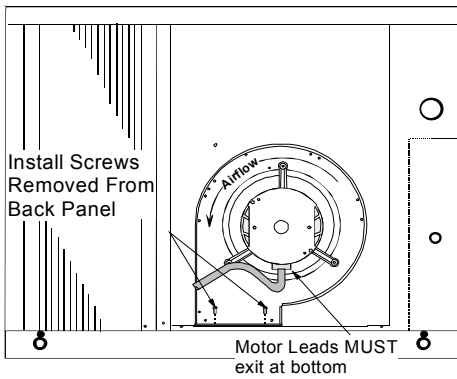

Figure 7 - Vertical Blower Assembly
The first step in the conversion is to rotate the blower assembly for downshot airflow. After rotating the blower assembly, the blower motor must be oriented as shown in Figure 7 with the motor wires at the bottom. This keeps condensate from puddling inside the blower motor and causing motor failure. If the motor is not oriented correctly, loosen the motor belly band and rotate the motor to the correct position, then retighten the motor belly band.
4. Rotate the blower assembly 90° clockwise, setting the blower assembly outlet on the bottom of the unit and secure with two screws removed in step 2 (Figure 7).